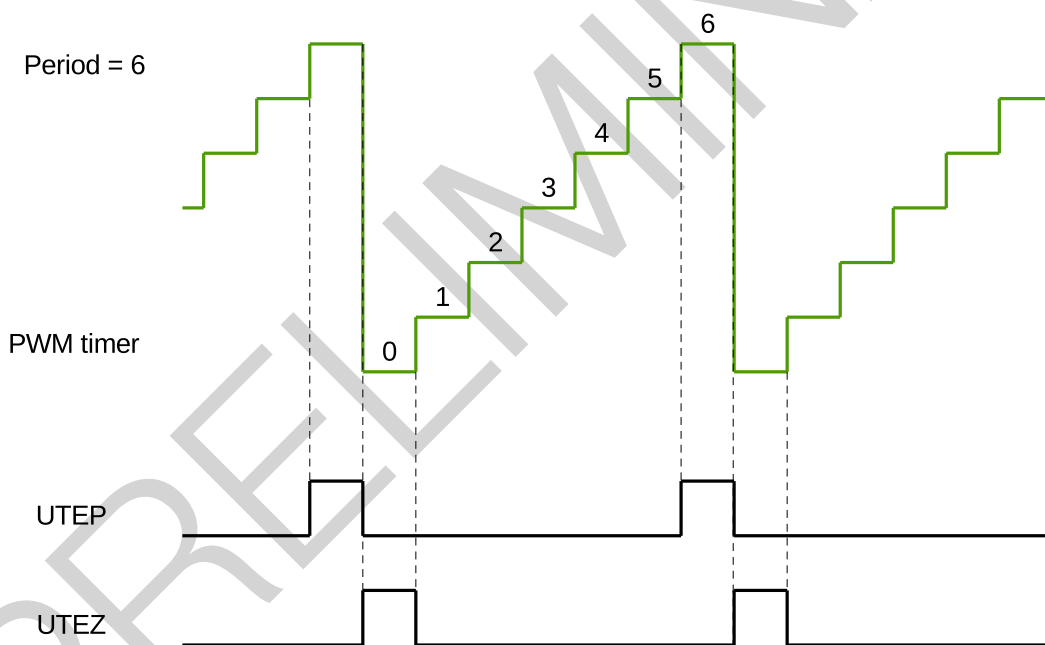

Figure 32-11. UTEP and UTEZ Generation in Count-Up Mode
Figures 32-11 to 32-13 show the timing waveforms of U/DTEP and U/DTEZ.
1. UTEP and UTEZ do not happen simultaneously. When the PWM timer is in count-up mode, UTEP will always happen one cycle earlier than UTEZ, as demonstrated in Figure 32-11, so their action on PWM signals will not interrupt each other. When the PWM timer is in count-up-down mode, UTEP will not occur.